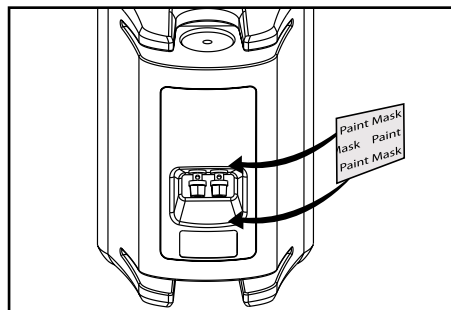
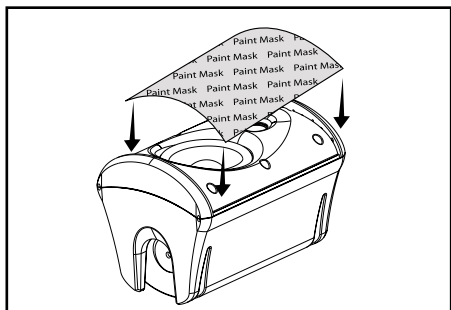

FIGURE 5
FIGURE 6
2. Mask off the binding posts on the back of the speaker [figure 5], the end panels and bracket knobs, and carefully mask off the front of the speakers to protect the drivers and baffles while painting [figure 6]. The grille features an engraved logo pod. You can mask this off or paint right over it.